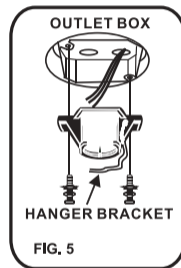

FIG. 5
Step 1. Secure the Hanger Bracket to the ceiling outlet box using the screws provided with your outlet box in conjunction with the lock-washers provided with the fan. (Fig. 5)